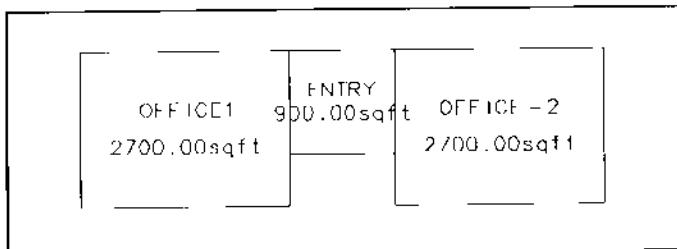

Figure 26.
1. Use the Area and Width command from the Space pull-down menu to place OFFICE-2 as shown in Figure 26.
- > Pick second point: **INT of [upper right corner of ENTRY as shown in Figure 26]**